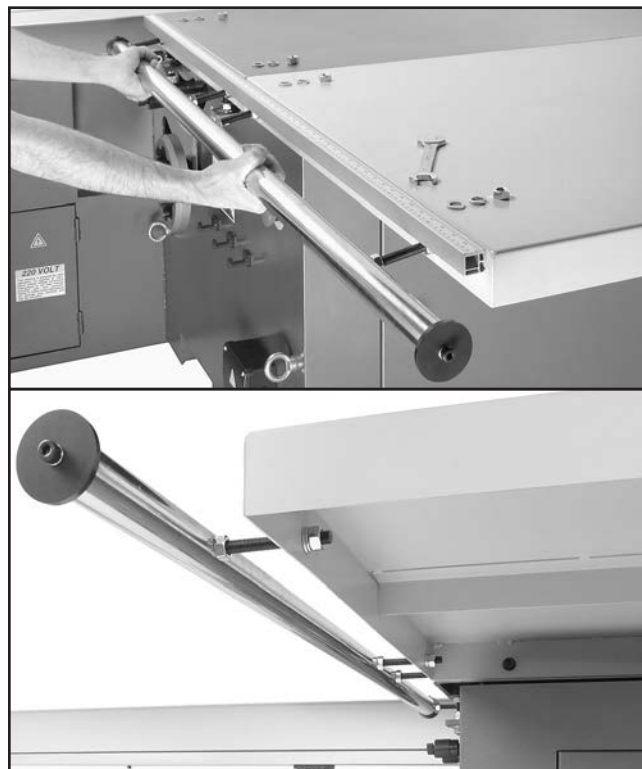

Figure 38. Installing the round rail.
22. Insert the studs into the tables as shown in **Figure 38**. Put a 12mm flat washer, 12mm lock washer and a M12-1.75 hex nut on the end of each stud to hold the round rail on the tables. Do not tighten the hex nuts at this time.